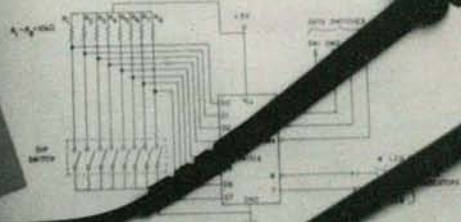
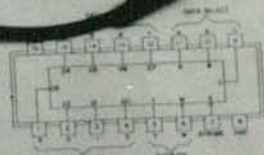

Fig. 16 Circuit for Experiment 2
Fig. 17 Pin diagram for 74151A
Figure 16 shows the circuit diagram for this experiment. You'll note that pin numbers for the IC aren't included on the diagram. For those, you'll have to refer to Fig. 17, which shows pertinent 74151A data. For the data inputs, you'll use an eight-pole DIP switch in conjunction with 10-k Ω pull-up resistors. For the Select and Strobe lines, finally, you'll use the trainer data switches.
2. Connect the eight 10-k Ω resistors to the DIP switch as shown in Fig. 16. Connect the opposite end of each of these resistors to the +5V supply. The second terminal of each switch is to be connected to trainer ground.
4. Next, connect the trainer data switches to the Select and Strobe lines on the IC, using Fig. 17 as a guide. Initially, set SW1 through SW4 to 1.